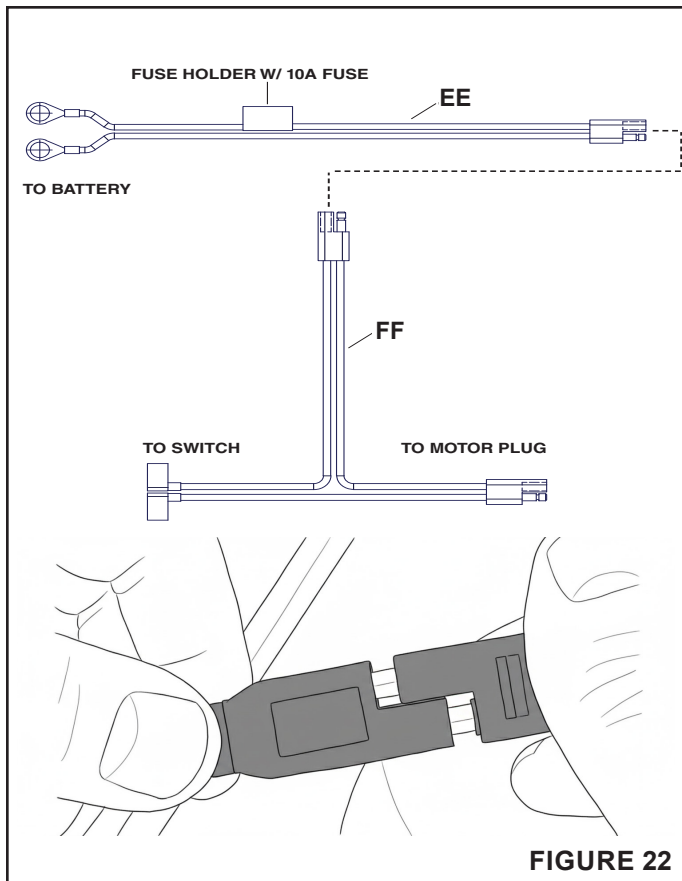

FIGURE 22
STEP 22: (SEE FIGURE 22)
- Plug the harness from the motor to the short end of the wire harness (FF).